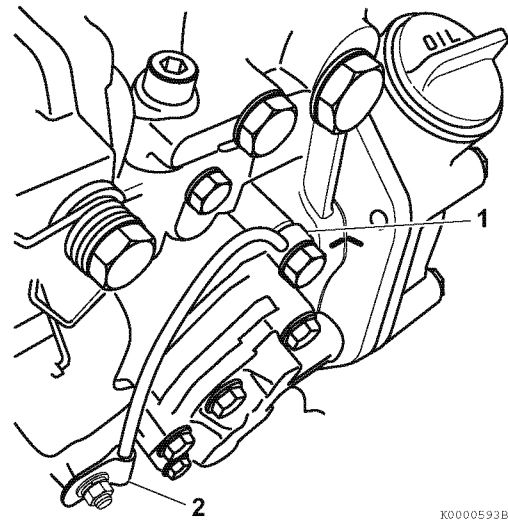

Figure 7-9
11. Remove the rear fuel injection pump bracket(s) (**Figure 7-9, (1)**) from the fuel injection pump.
12. Disconnect the lube oil line (**Figure 7-9, (1)**) and the clamp (**Figure 7-9, (2)**) from the pump.